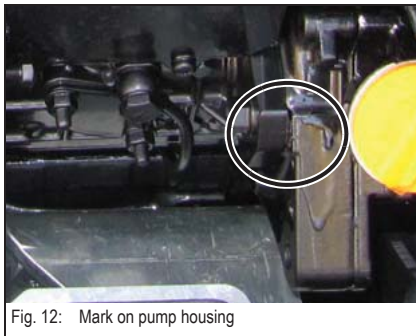

Fig. 12: Mark on pump housing
- ⚙️ Mark the original position of the injection pump on the pump and gear casing – see Fig. 12
- ☞ Set the injection pump to the original position by means of the marks on the gear casing and injection pump housing made during removal – see Fig. 12